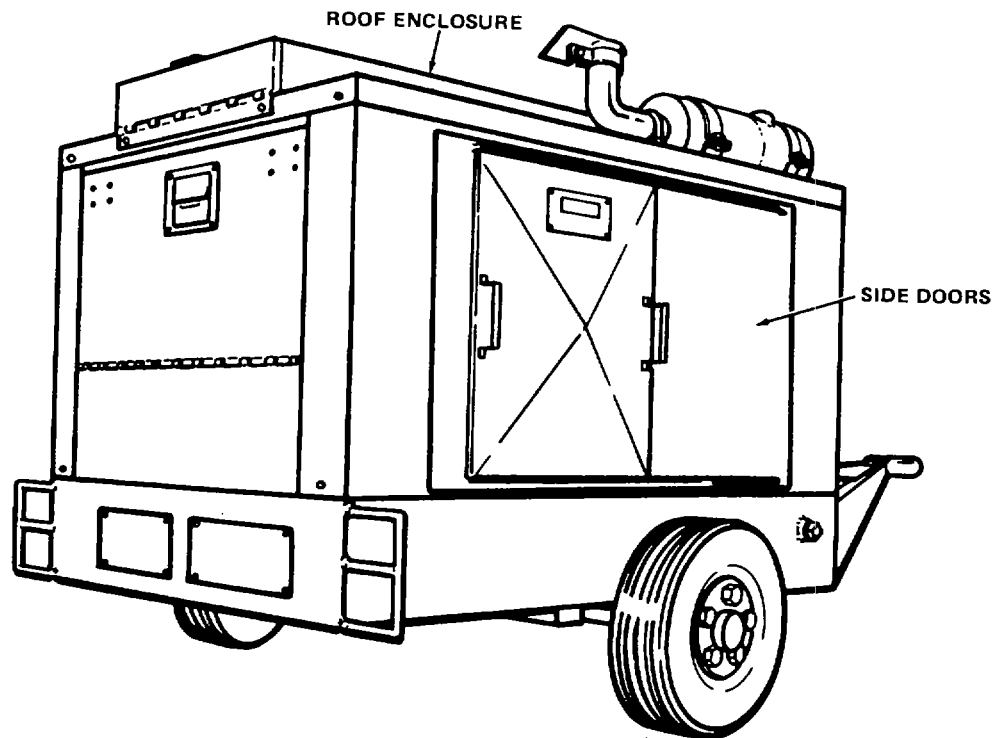
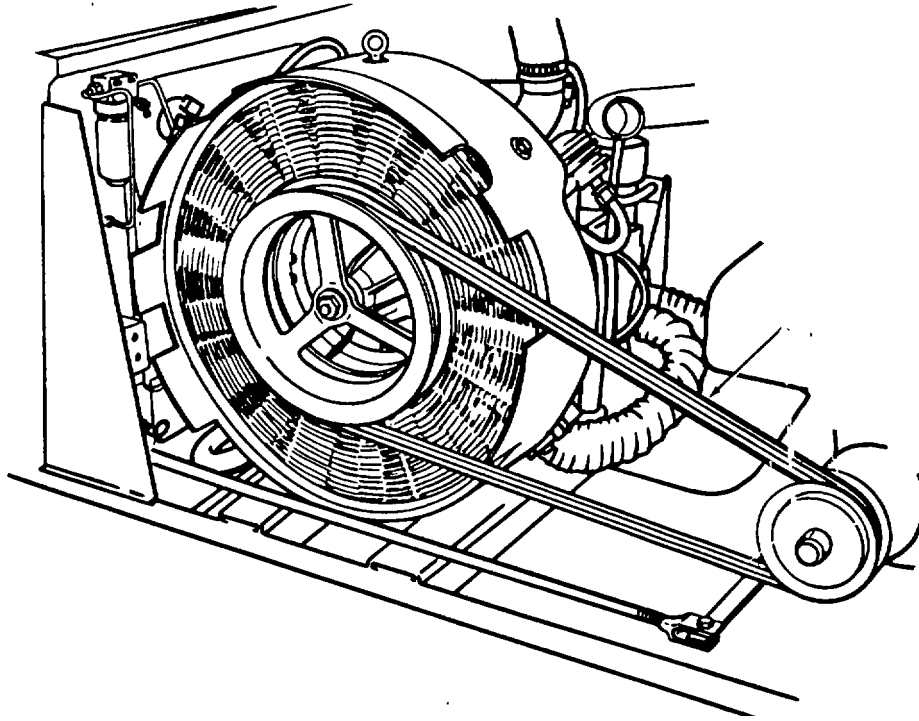
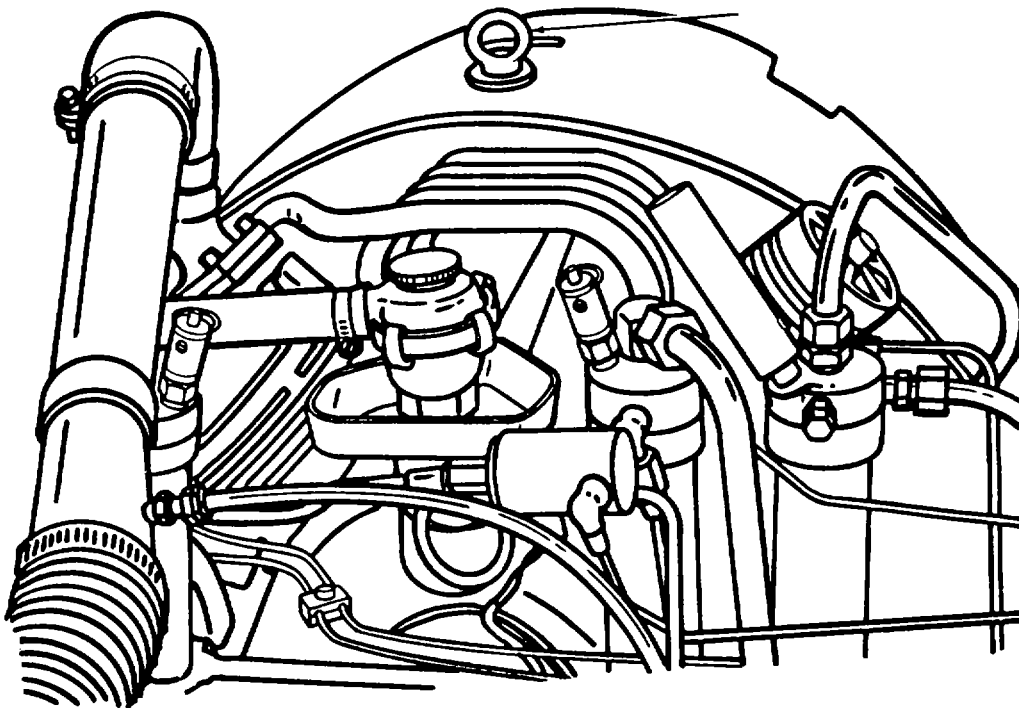

Figure 6-39. Access Panels
Figure 6-40. Drive Belts
Figure 6-41. Compressor Lifting Ring
- (2) Remove enclosure roof. (Figure 6-39)
- (3) Remove side access panel. (Figure 6-39)
- (4) Disconnect air cleaner at compressor.
- (5) Remove drive belts. (Figure 6-40)
- (6) Disconnect oil drain hose at compressor.
- (7) Remove four nuts and washers.
- (8) Disconnect all gage tubing at compressor.
- (9) Disconnect air line at aftercooler.
- (10) Disconnect condensate drain tubes.
- (11) Disconnect main wiring at two solenoid valves.
- (12) Attach lifting device and remove compressor. (Figure 6-41)